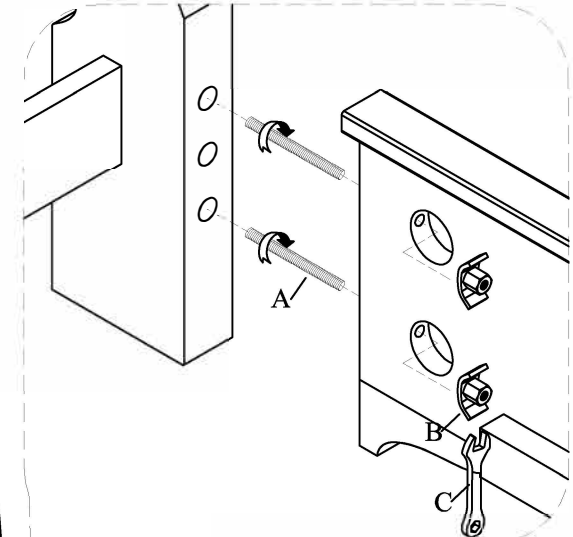

FIGURE 1
- STEP 1. Screw the Threaded Bolt (A) into the two threaded holes that are at the bottom of the posts of Bolt the Headboard and the Footboard. Slide the Bed Rail onto the two Bolts (A) on one of the bed posts until the Threaded Bolt (A) are visible through the holes on the inside of the Bed Rail. See Figure 1.
- STEP 2. Slide a Curved Washer Nut (B) onto the Threaded Bolt (A) through the holes in the Bed rail. Tighten all the Curved Washer Nut (B), using the Spanner Wrench (C). See Figure 1.